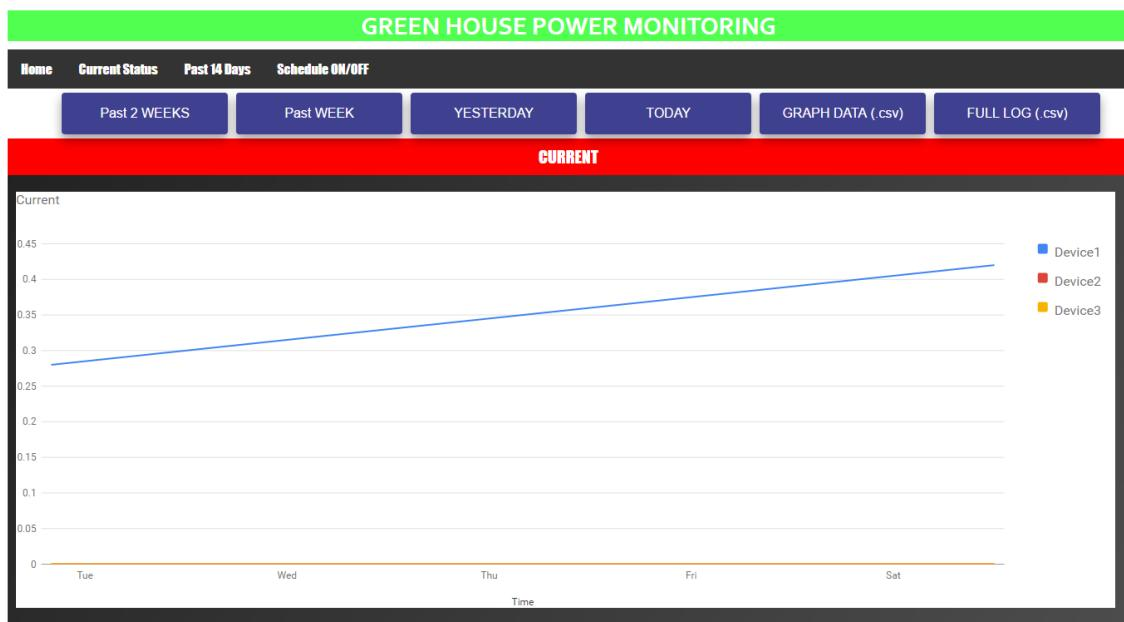

Figure 1.27: Logging page
- Figure 1.27 shows the logging page.
- As shown in the Figure 1.27 the first four buttons provided are for period selection, and the last two are download links for .csv format for graph data and complete log data respectively.